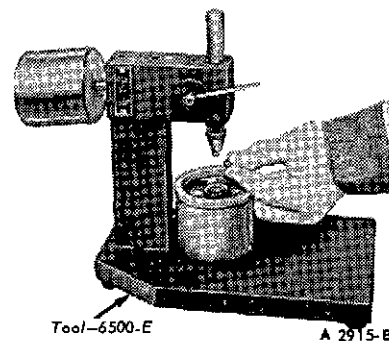

FIG. 5 Placing Steel Ball in Valve Lifter Plunger
3. Place a 5/16 inch steel ball in the plunger cup (Figure 5).